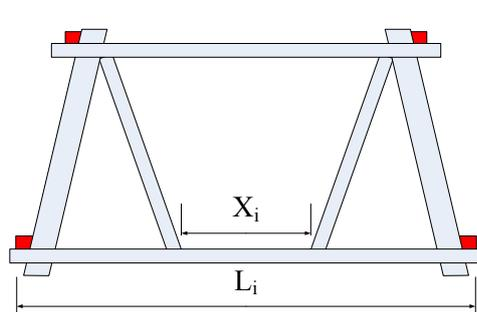
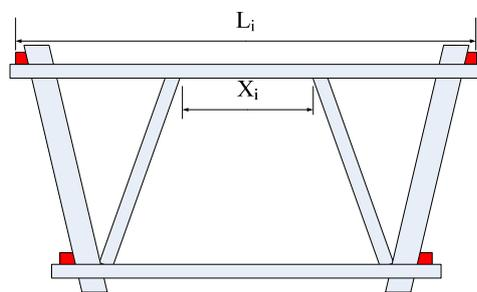

Figure 9a
Figure 10a
4.7.4 When the elevation of a floor in a certain direction is a trapezoid, L_i is the larger length of the top side and the bottom side. For example, when the bottom side is wider than the top side (Figures 9a and 9b), L_i is the length of the bottom side of the trapezoid. The corresponding X_i is the part of the bottom floor perimeter, which is not occupied by the projection of walls, bracings and inclined columns. On the contrary, when the top side is wider than the bottom side (Figures 10a and 10b), L_i is the length of the top side of the trapezoid. The corresponding X_i is the part of the top floor perimeter, which is not occupied by the projection of walls, bracings and inclined columns.